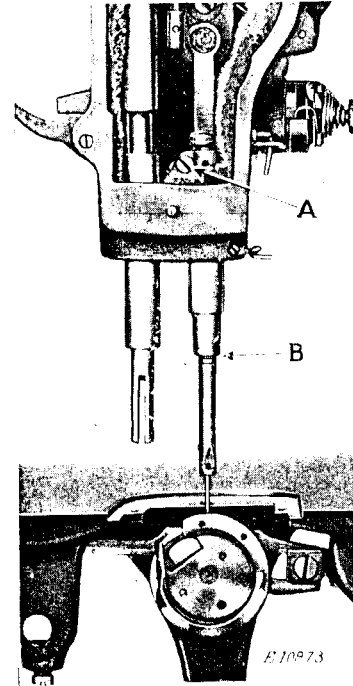

Fig. 17. Showing Needle Bar Set at the Correct Height
In case the needle bar is not set at the correct height, loosen the needle bar connecting stud pinch screw (A, Fig. 17) and move the needle bar up or down until the upper timing mark is in the position, as instructed above, then securely tighten the screw (A).